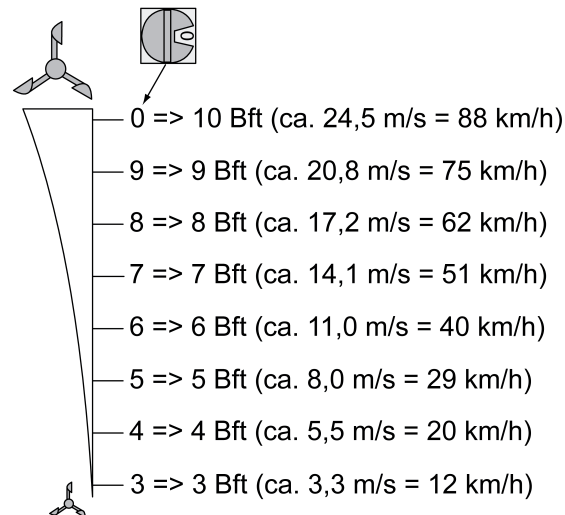

Figure 5: Wind speed setting
- Using the rotary switch (9), set the wind speed at which the blind/shutter is to move to the protected end position (figure 5). The setting is made in Beauforts Bft.